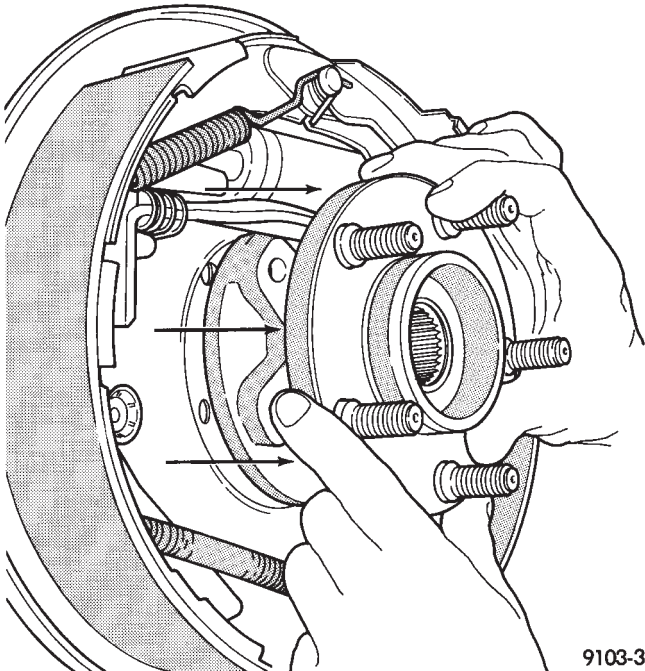

Fig. 6 Pull Wheel Bearing Assembly from Housing
- (8) Remove wheel bearing and hub assembly (Fig 6).
- (9) **Replacement of the grease seal is recommended whenever this service is performed.**